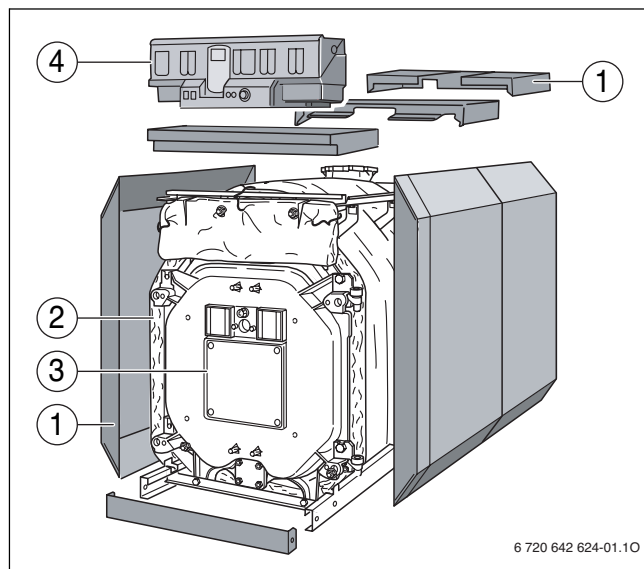

Fig. 1 Oil/gas fired boiler Logano G515
- Boiler block (→ Fig. 1, [3]).
- Boiler shell (jacket → Fig. 1 and 2, [1]), thermal insulation (→ Fig. 1, [2]).
- Control panel (→ Fig. 1, [4])